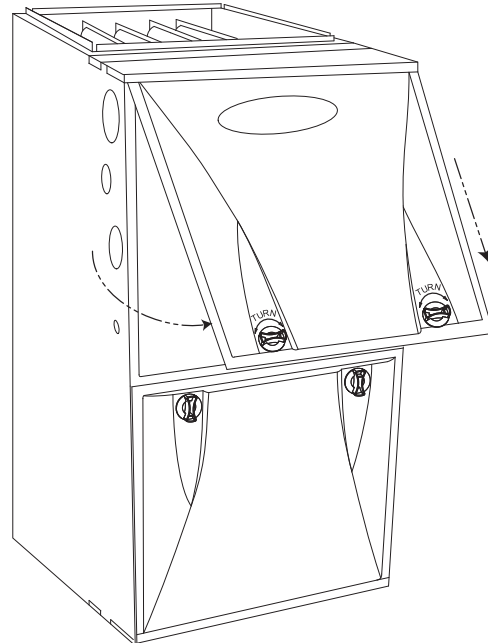

Fig. 10 - Remove Main Furnace Door (Upflow Configuration)
4. Remove the main furnace door. See Fig. 10.
4. Remove main furnace door. See Fig. 10.